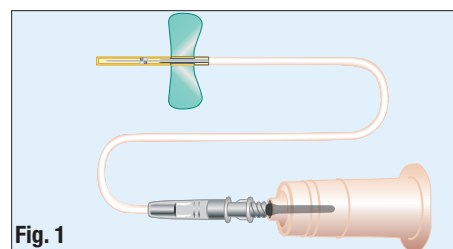

Fig. 1
4. Thread into holder. (Fig. 1)